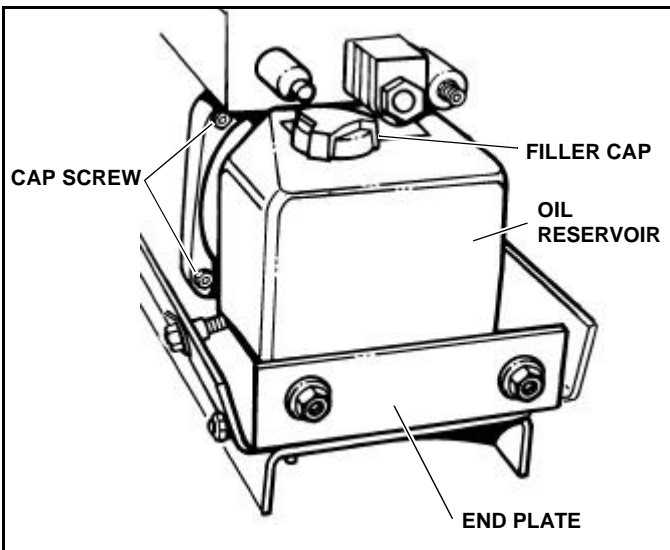

Figure 2-2
(See Figure 2-2)
5. Remove two (2) cap screws securing Pump Platform End Plate to Pump Platform. (End Plate is located next to end of Oil Reservoir.)
6. Remove the four cap screws securing the Oil Reservoir to the pump assembly and remove the Oil Reservoir being careful not to damage the Filter screen while removing the Oil Reservoir. (See Figure 2-2)